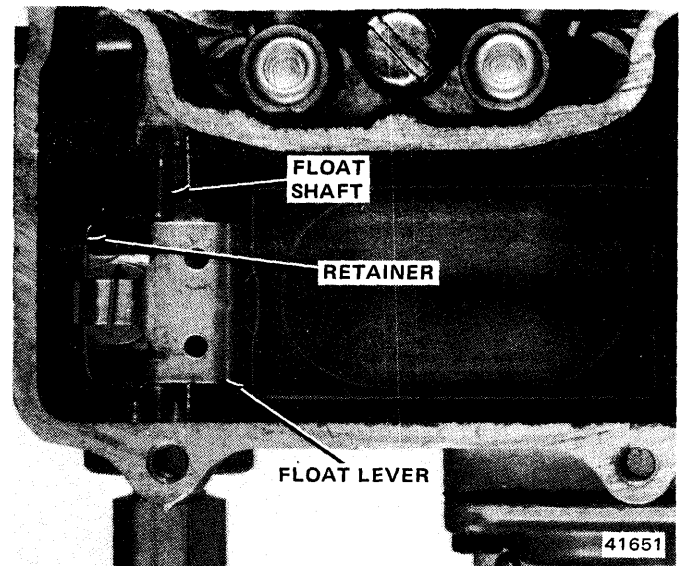

Fig. 4-99 Float Assembly
(10) Remove altitude compensator, gasket and attaching screws.
(11) Pry float shaft retainer from fuel inlet seat (fig. 4-99). Remove float, float shaft retainer, and fuel inlet needle assembly. Remove retainer and float shaft from float lever.